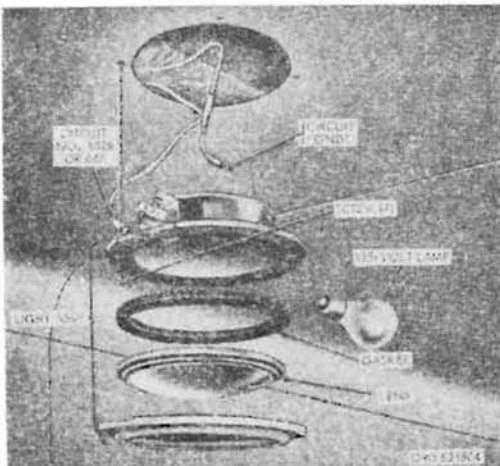

Figure 369. Emergency and blackout light fixture replacement
- (1) Remove four screws attaching jack post box to ceiling (or rear panel) and separate box from panel.
b. Light Fixtures (Fig. 369)
(1) Removal.
(2) Installation.
- (a) In emergency light, connect wires 652-B and GND (fig. 369) to socket terminals from which they were re-
moved. In blackout light, connect wires 647 and GND (fig. 369) to socket terminals from which they were removed.